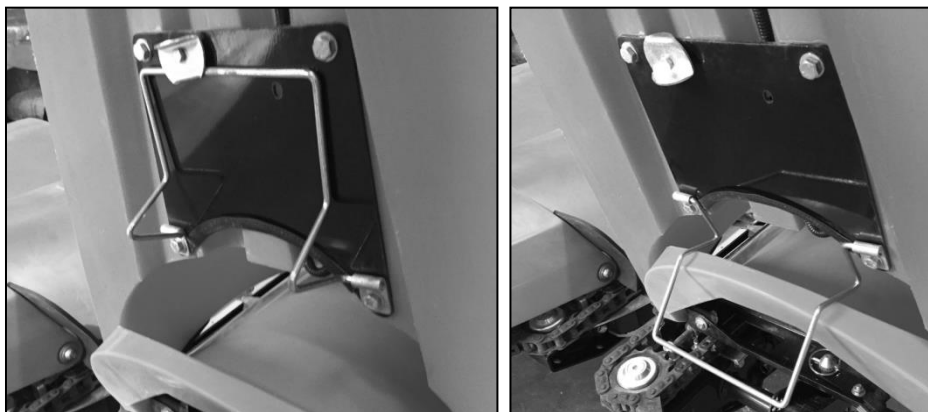

Figure 9: Installation and function of front snout wire brackets.
- 7.3. Install wire brackets on front snouts (Figure 9, next page)). Brackets support snout in service position and can be found in wooden shipping crate. Note: only applicable on 30" row spacing.